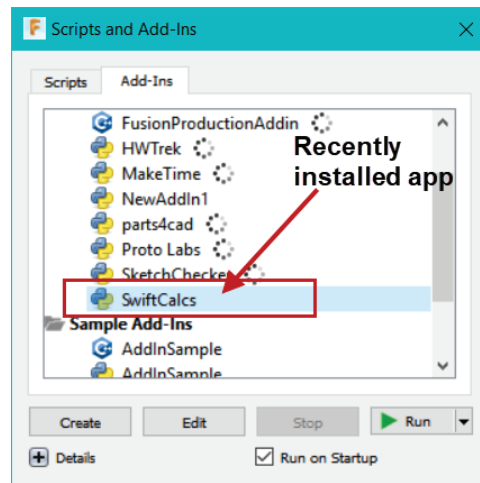

Figure-67. Installed app
- Once the app is installed, you can access it from Add-Ins tab of Scripts and Add-Ins dialog box; refer to Figure-67.